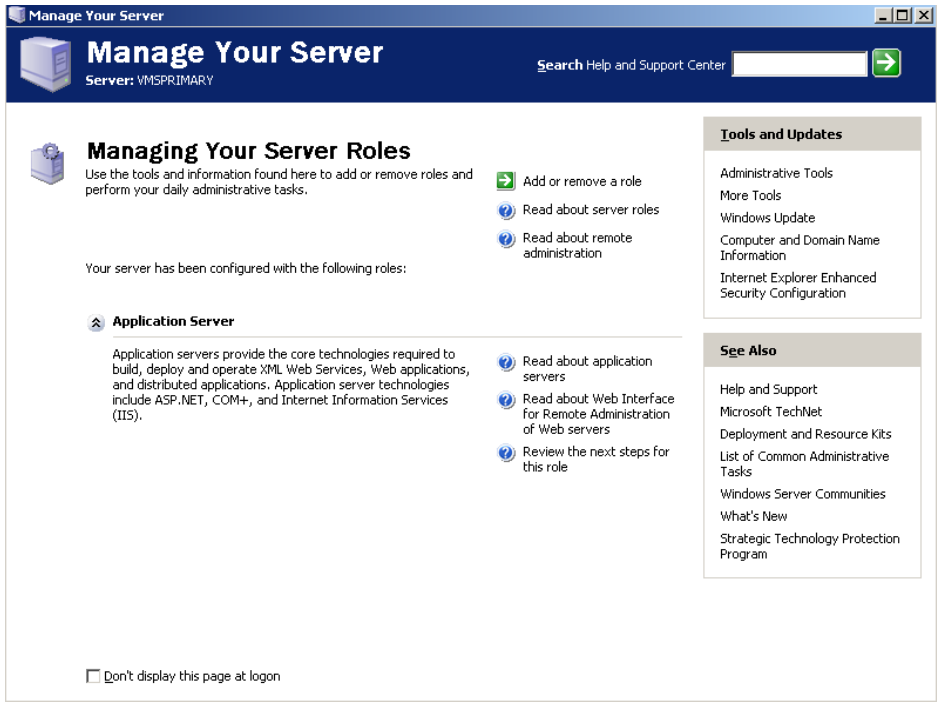

Figure D-21 Manage your server dialog
2. From **Manage Your Server** shown in figure D-21, click Add or remove a role. By default, Manage Your Server starts automatically when you log on. To open Manage Your Server, click Start, click Control Panel, double-click Administrative Tools, and then double-click Manage Your Server.